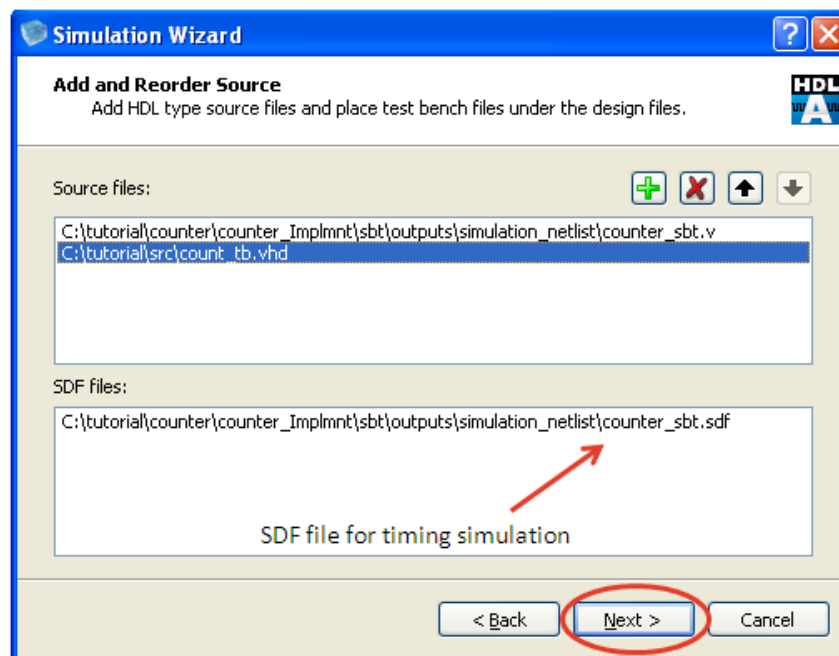

Figure 10-19 : Add Test bench File.
4. The simulation wizard automatically adds the post routed netlist "**counter_sbt.v**" in "Source files" panel and the verilog delay format file "**counter_sbt.sdf**" under "SDF files" panel as shown in Figure 10-19. Click on "+" icon to add the "**count_tb.vhd**" test bench to the "Source files" panel. Click on "Next".